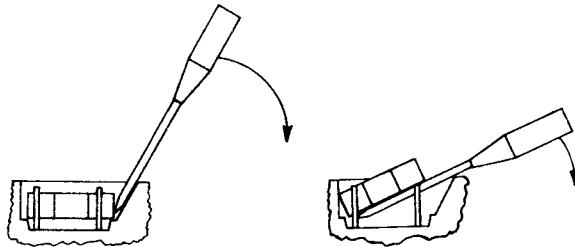

Figure 10. Fuse Removal
8. Snap out fuse with a tool as shown in Figure 10. Install a new fuse.